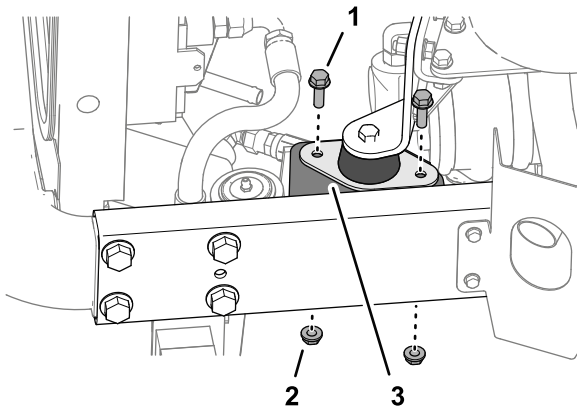

Figure 41
- At the right side of the machine, remove the 2 flange-head screws (5/16 x 1 inch) and 2 serrated-flange nuts (5/16 inch) that secure the engine mount to the engine bracket of the frame (Figure 41).